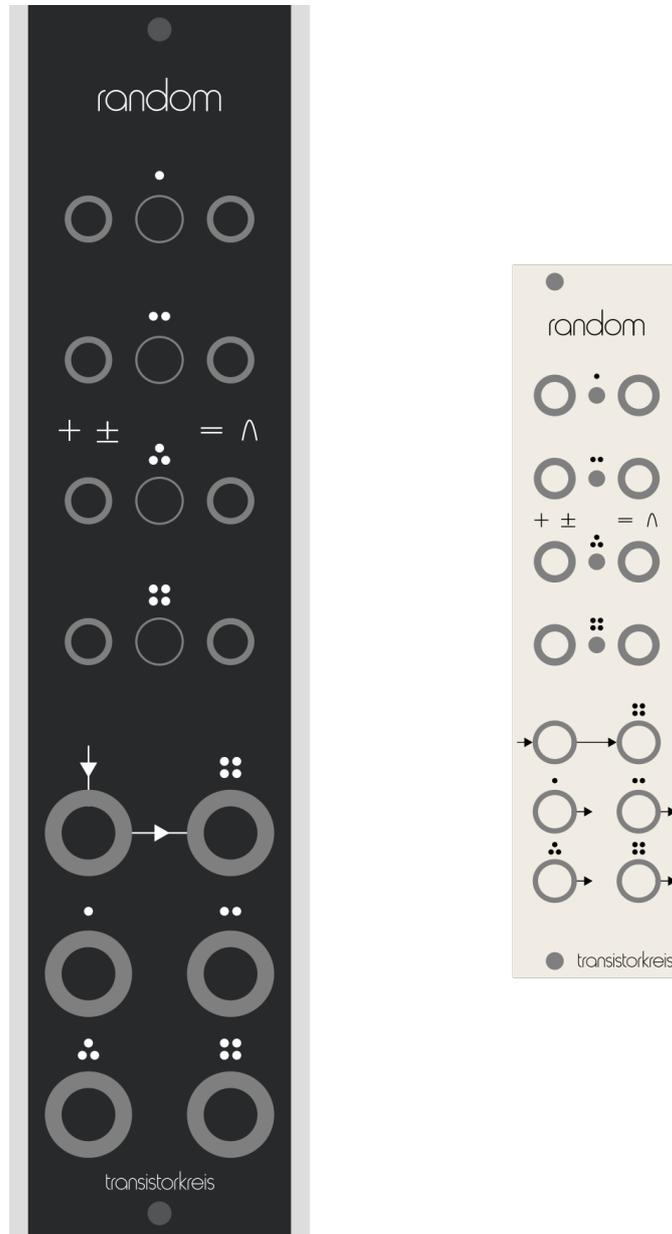

Figure 1: Front panel layout of the Moog and Eurorack version.
Modules from transistorkreis for modular synthesizers are available as DIY kits for the Moog format (MU) and the Eurorack format. Their design is generic and also allows for building any other format. Figure 1 shows the front panel layout of the Moog and Eurorack version of the random module. The design of modules from transistorkreis is partially published and licensed as open source, see section 4 for the open-source firmware of the random module.